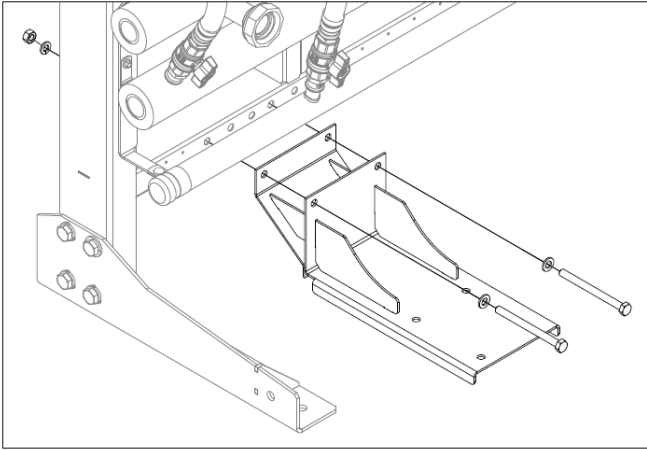

Figure 7
8. If required, remove the pump bracket by removing 2 x bolts holding it to the frame. Refer to **Figure 7**.